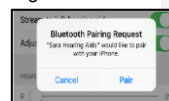

Figure 12
6. A pairing request window will appear for each device. Select **Pair** (Figure 12).